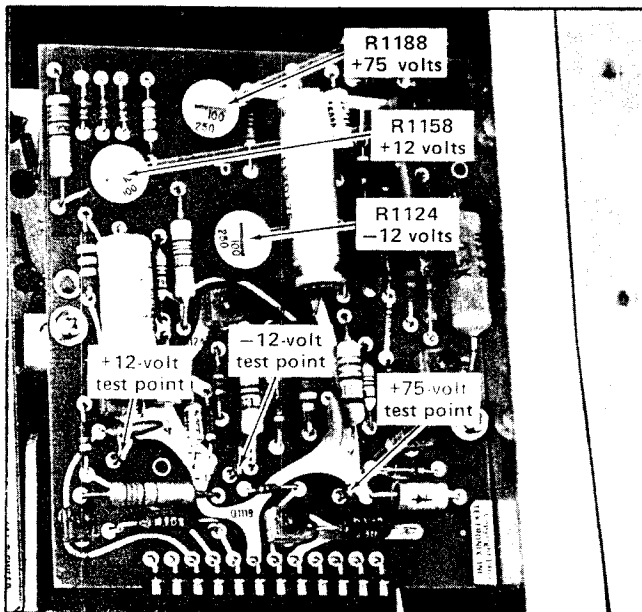

Fig. 5-3. Low-voltage power supply test points and adjustments (Low-Voltage Regulator circuit board).
d. ADJUST— -12 Volts adjustment R1124 (see Fig. 5-3) for -12 volts,  $\pm 0.0032$  volt.
d. ADJUST— +12 Volts adjustment R1158 (see Fig. 5-3) for a meter reading of +1 volt ( $\pm 0.003$  volt).
f. Connect the precision DC voltmeter between the +12-volt test point on the Low-Voltage Regulator circuit board and chassis ground. See Fig. 5-3.
a. Connect the precision DC voltmeter between the +75-volt test point on the Low Voltage Regulator circuit board (see Fig. 5-3) and chassis ground.
c. ADJUST— +75 Volts adjustment R1188 (see Fig. 5-3) for a meter reading of +75 volts ( $\pm 0.278$  volt).
c. CHECK—Two millivolts (0.4 division) peak-to-peak maximum line-frequency ripple on the -12-volt, +12-volt, and +75-volt supplies while changing the autotransformer output voltage throughout the regulating range selected by the Line Voltage Selector assembly on the rear panel. Power-supply test points are shown in Fig. 5-3.